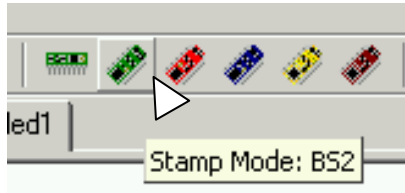

Figure 1-35
- ✓ Begin by clicking the BS2 icon (the green diagonal chip) on the toolbar, shown highlighted in Figure 1-35. If you hold your cursor over this button, its flyover help description “Stamp Mode: BS2” will appear.